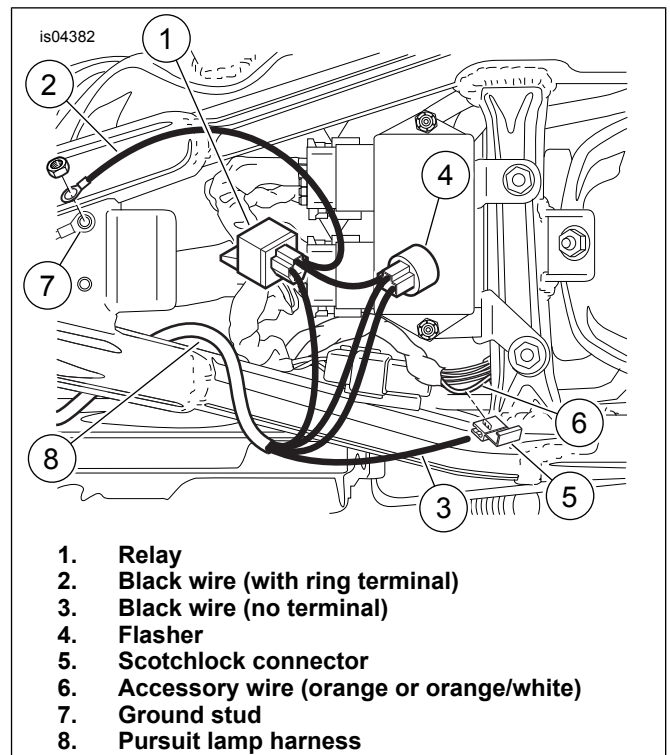
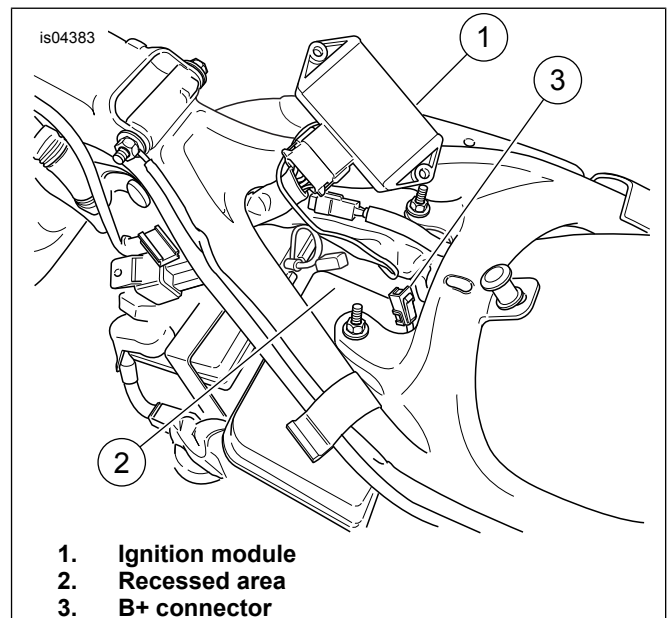
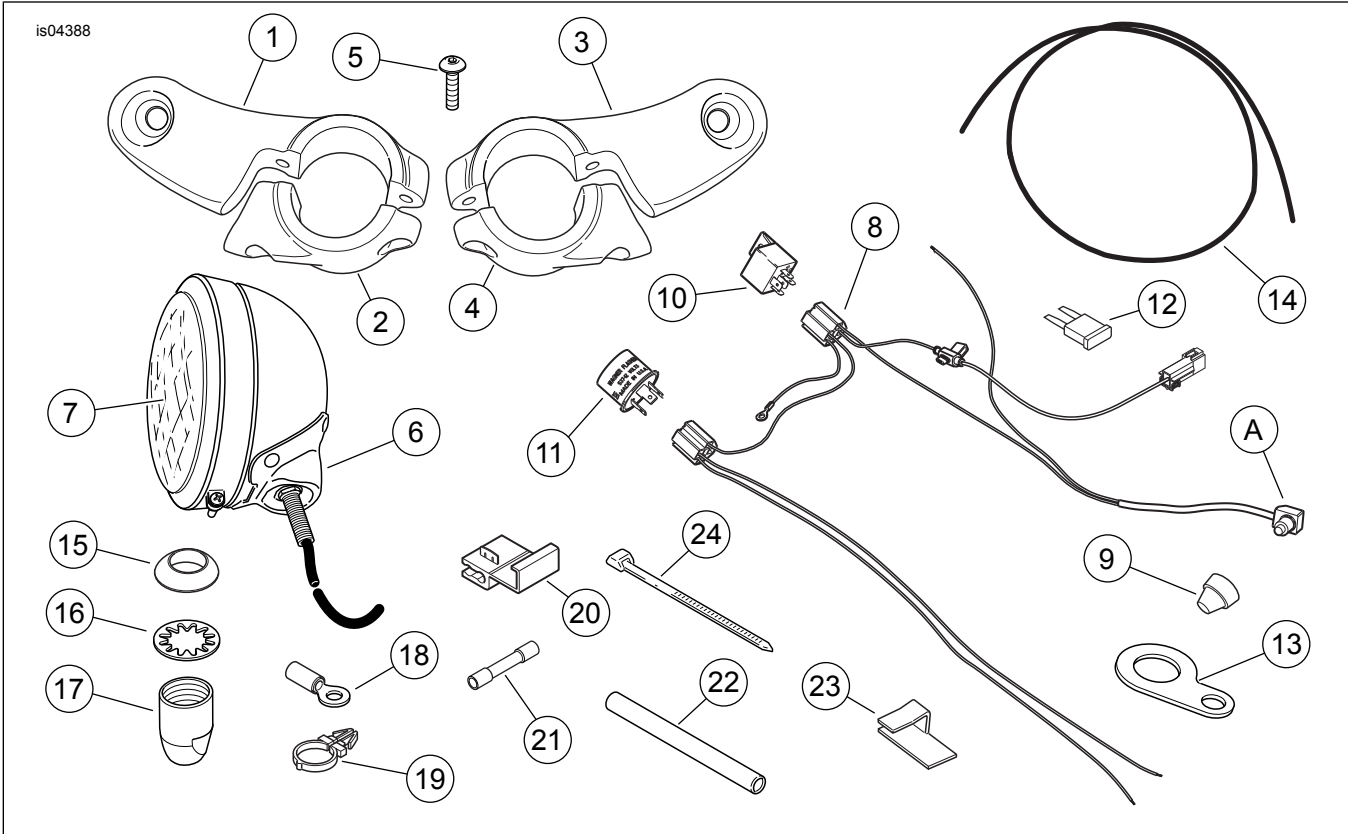

Figure 4. Install Wiring Harness (2003 and Earlier Models)
Figure 5. Install Wiring Harness (2004 and Later Models)
Figure 8. Service Parts, Pursuit Lamp Kit
9. **For 2003 and earlier models:** See Figure 4. Install the wiring harness (8). Place the relay (1) and flasher (4) in the opening below the seat pan, and route the long leg of the harness (8) along the frame backbone. **For 2004 and later models:** See Figure 5. Remove the nuts retaining the ignition module (1), and temporarily reposition the module as shown. Place the relay in the recessed area (2) of the oil reservoir. Install the ignition module. Route the long leg of the harness along the frame backbone.
10. **For 2003 and earlier models:** See Figure 4. Cut the connector from the white power lead (6), and replace it with the ring terminal (Figure 8, 18) supplied in the kit. Connect the white wire with the ring terminal to the copper stud (BAT) terminal of the main circuit breaker. **For 2004 and later models:** See Figure 5. Connect the pin housing on the white wire to the B+ socket housing (3) on the vehicle harness.
11. **For ALL models:** See Figure 4. Connect the black ground wire with ring terminal (2) at the ground stud (7) under the seat, or at any good electrical ground point. Secure the pursuit lamp harness to the adjacent harnesses with cable straps from the kit.
13. See Figure 8. Unscrew the boot (9) from the lamp switch (A), and install the switch into the switch mounting bracket (13) from the kit. Reassemble the boot to the switch.
15. Secure the lamp switch leg of the pursuit lamp harness to the handlebar using the **new** wire harness retainers (Figure 8, 19) as needed. Snap the retainers into the holes in the handlebar.
16. See Figure 4. Route the black wire without the ring terminal (3) to a convenient location under the seat, and splice the black wire to the accessory circuit wire on the vehicle harness using the Scotchlok® connector (Figure 8, 20).